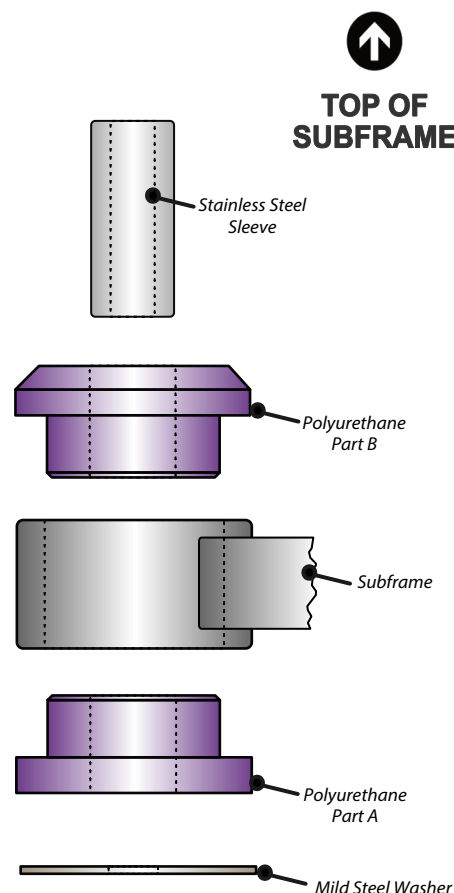

Figure 1
4. Fit the tapered flanged B bush to the upper half of the subframe as shown in fig 1.